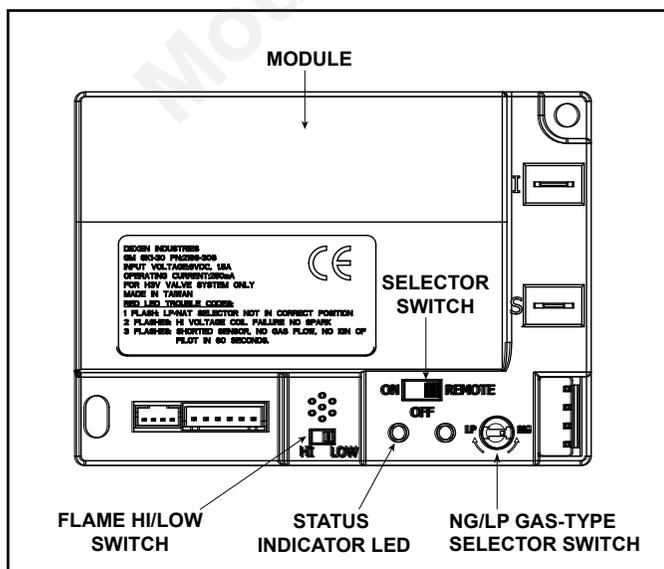

Figure 2.3 Control Module
1. The control module has an ON/OFF/REMOTE selector switch that must be set. See Figure 2.3.
2. If using a wired wall switch with the module in REMOTE mode, the flame output can be adjusted with the HI/LO selector switch on the module. See Figure 2.3. Note that the flame HI/LO selector switch will become inactive once an optional remote control (RC300CE) is programmed to the control module. Note that the control module will always ignite the fireplace on HI and remain so for the initial 10 seconds of operation. If the HI/LO is switched to the LO position, the flame output will automatically drop to the lowest setting after the flame has been established for 10 sec. After this 10 second period, the flame can be adjusted from HI to LO with the switch.